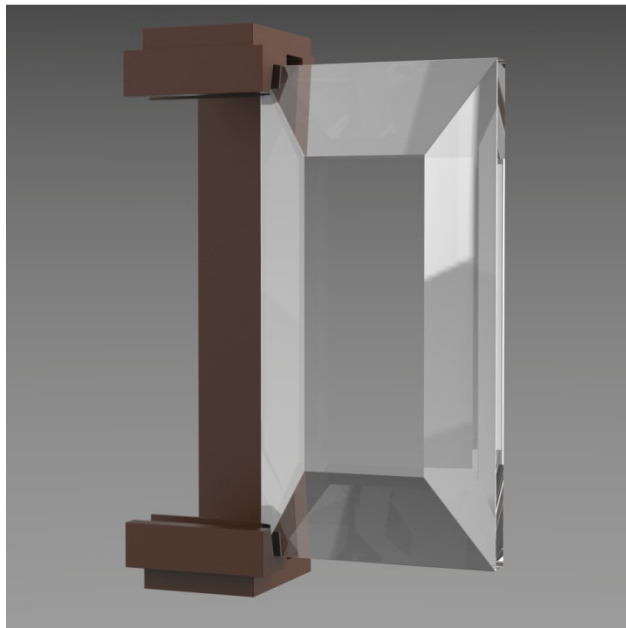

Figure 6
- Carefully slide glass into support claws. Do not force. (Figure 6)